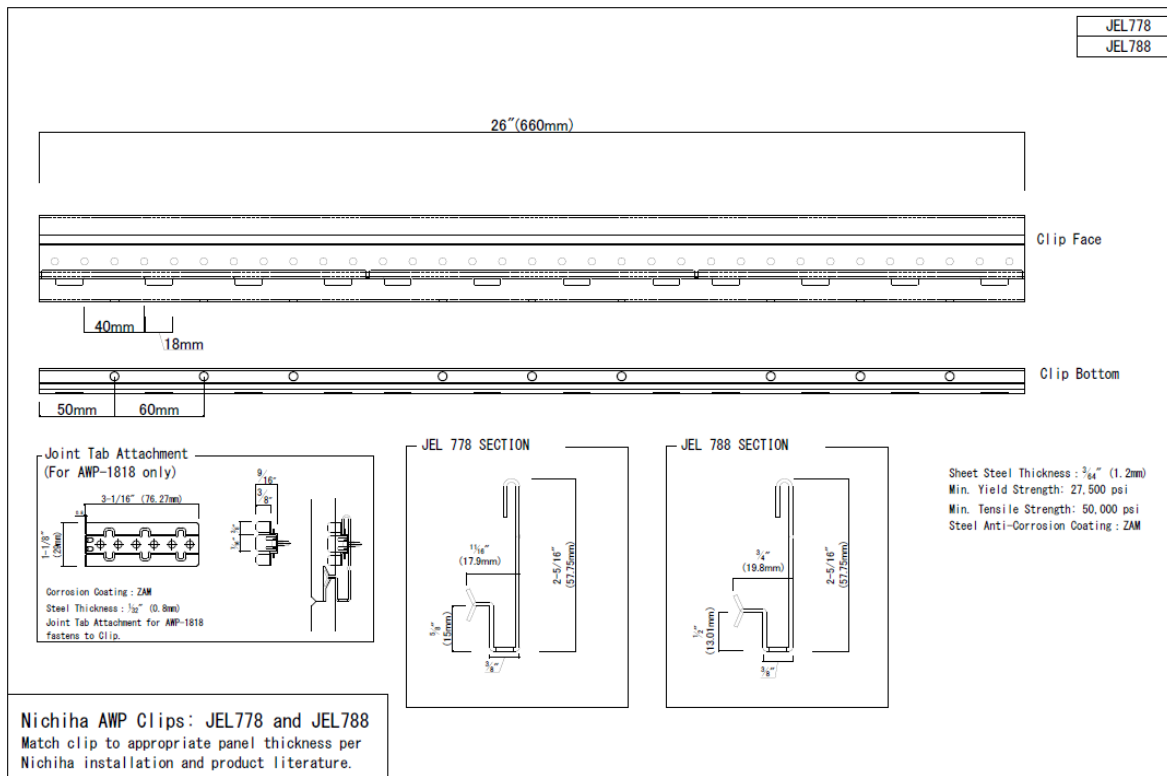
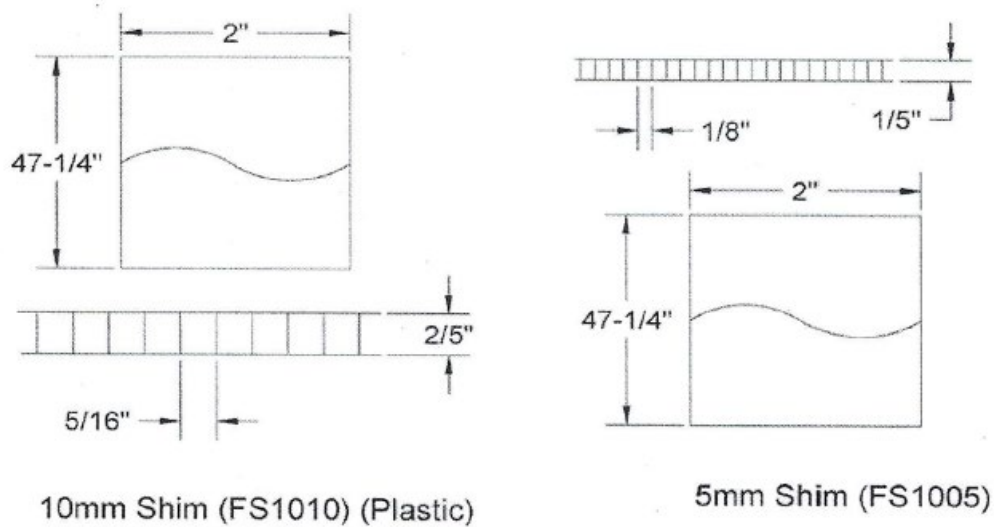

FIGURE 1 – PANEL CLIP DETAILS
FIGURE 4 – CORRUGATED SHIM DETAILS
- Refer to Fig. 1 through Fig. 4 for Nichiha Clip System Details.
- Refer to Figs. 1 through 6 for Nichiha Clip System Details.